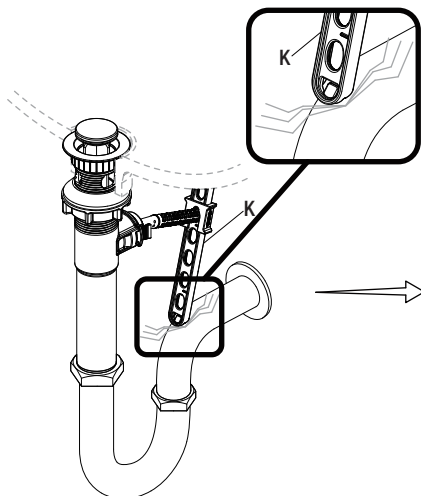

Fig. 1
- If the pop up lift rod strap (K) is interfering with your installation, as shown in Fig. 1, the lift rod strap (K) can be cut shorter.